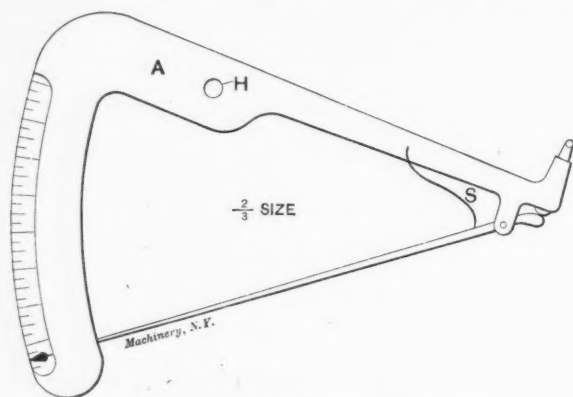

Fig. 8.
C. W. Shelley, Lynn, Mass., sends a sketch of a center indicator shown in Fig. 8. The indicator multiplies 35 times. It consists of a frame A, on one end of which is a graduated segment and to the other end of which the pointer is pivoted. A sliding pin bears against the short arm of the pointer as indicated, and the pointer is kept at the zero reading of the scale,